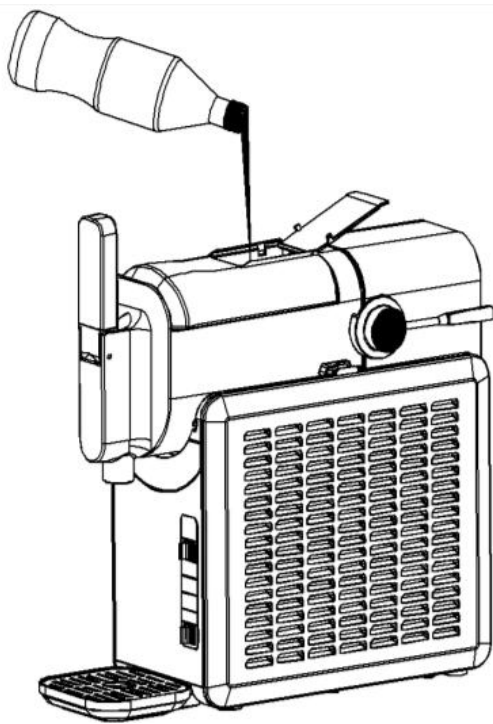

Figure 1
- 3.** Open the top cover of the charging barrel, then slowly pour the material into the charging barrel (as shown in Figure 1).